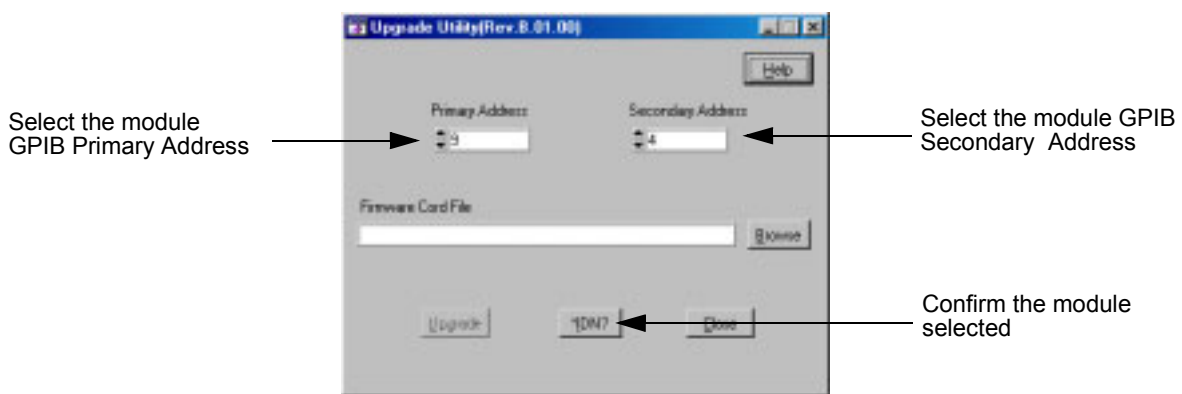

Figure 7-1. Upgrade Utility
1. Locate the executable file *upgradeutility.exe* in the directory Hpj142xb and start the utility to display the window shown in Figure 7-1.